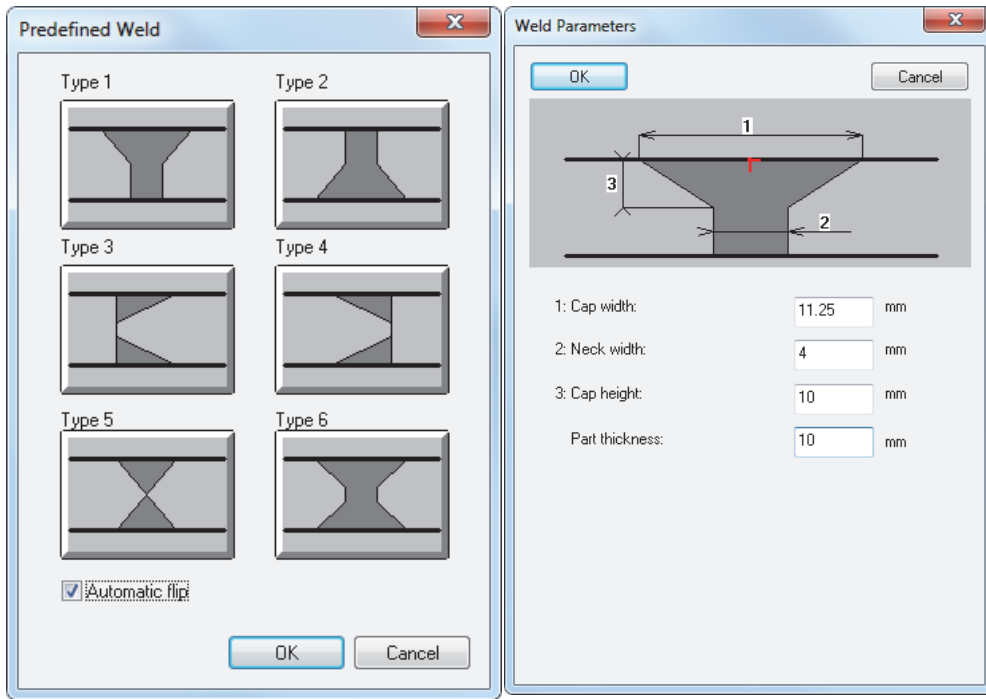

Figure 4-27 Predefined Weld and Weld Parameters (for Type 1) dialog boxes
- a) In the **Predefined Weld** dialog box, click the appropriate weld type to open the **Weld Parameters** dialog box (Figure 4-27 on page 124).